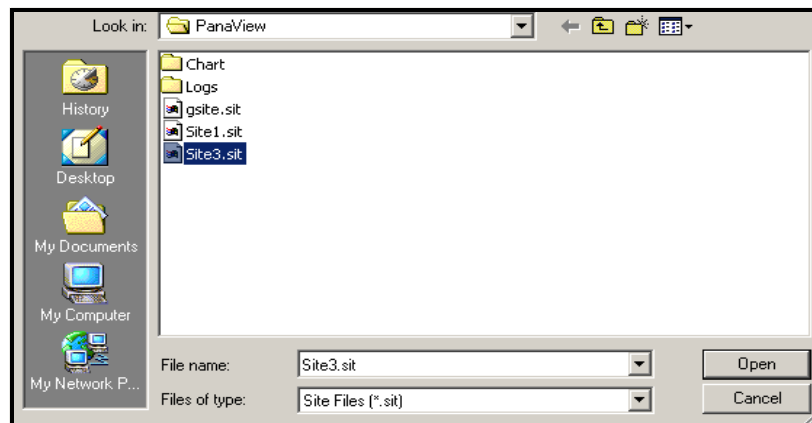

Figure 31: Site File Selection
2. Then click on the *Save Site to Meter* button. A screen opens similar to Figure 31.
3. The *Site File Selection* window (Figure 31 on page 100) opens. Highlight a site with the desired settings, and click [Open]. PanaView saves the site in the meter with the new name and the desired settings.
3. The *Site File Selection* window (Figure 31 on page 100) opens. Enter the desired site name (now with a .prt suffix) and click [Save]. PanaView displays a text version of the site, as shown in Figure 33.